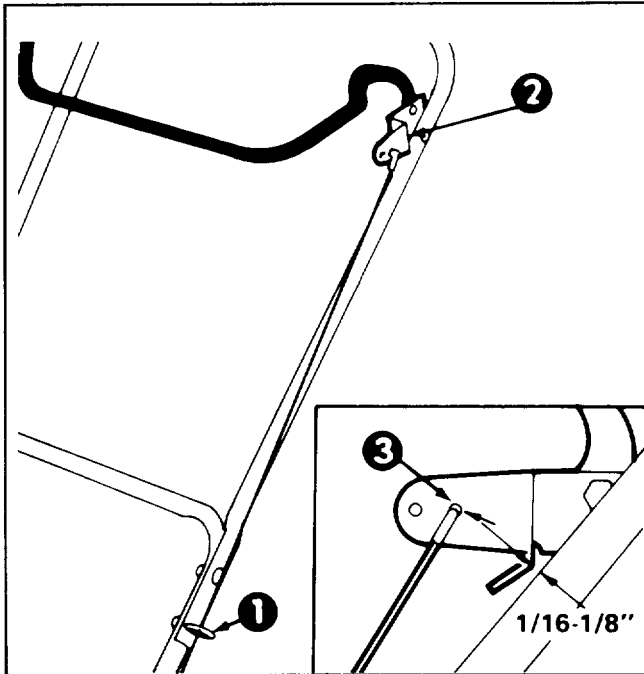

Figure 5
INSTALL CONTROL CABLE (Fig. 5)
2. Move control bar back toward handle until slack in cable is removed. The gap between the control bar bracket and handle should be approximately 1/16"–1/8". See insert, Figure 5. If an adjustment is required, refer to Adjusting Control Bar, page 8.